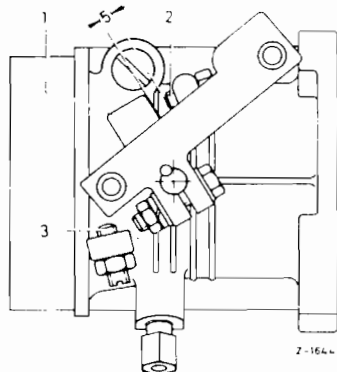

Fig. 27-4/3
Screw kickdown switch into the cover plate of the steering column jacket to the point where the throttle valve lever (1) is located approx.  $\frac{3}{16}$ " from the full load stop screw (2) (Fig. 27-4/3) while the gas pedal rests against the kickdown switch (position B). When the gas pedal is depressed to kickdown (position C), there should still be a play of approx.  $\frac{3}{64}$ " between throttle valve lever and full load stop on the venturi control unit housing. The adjusting lever of the injection pump, on the other hand, should rest against the full load stop (only for cars with injection engines).